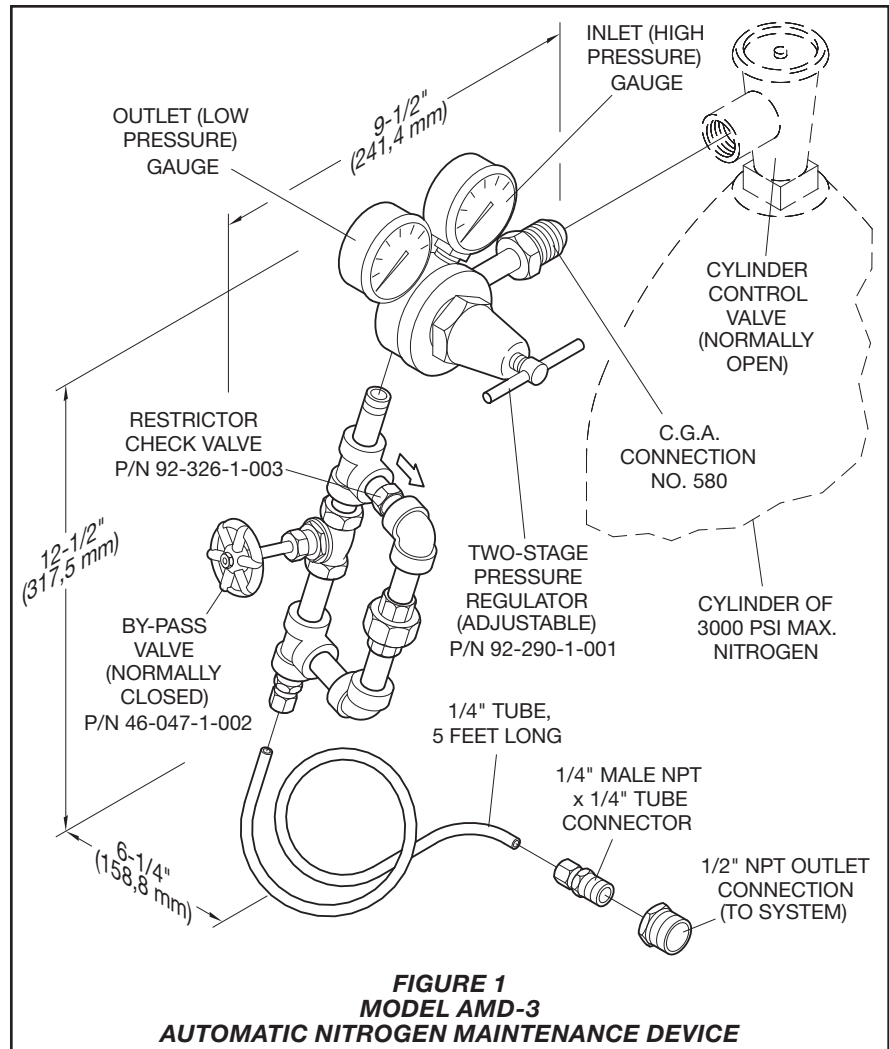

FIGURE 1
Major components illustrated in Figure 1 are factory-assembled, galvanized steel nipples and malleable iron pipe fittings. Connection to the system is via copper tubing and brass tubing fittings.
Step 1. Assemble the Model AMD-3 Device components as shown in Figure 1. Apply pipe-thread sealant sparingly to male pipe threads only.
Specify: (description) for use with the Model AMD-3 Automatic Nitrogen Maintenance Device, P/N (Ref. Figure 1)